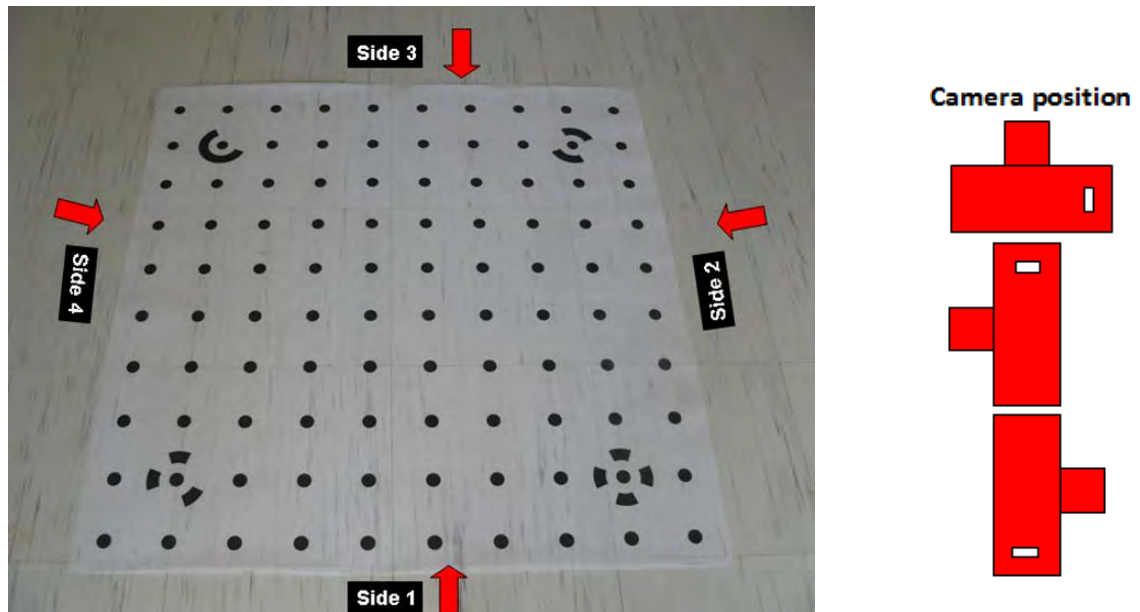

Figure 28: Calibration chart on the floor in House 1.
4. Move to side 2 (Fig. 28) and take a photo of all the dots from this position. Repeat the same process from side 3 and 4.